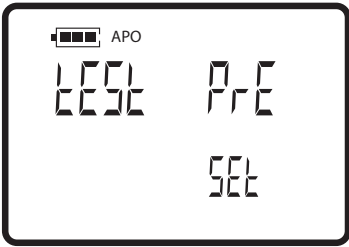

Figure 8
- 1) At **Main Screen (FIG 1)** press **TEST**. The **Test Pressure Set Screen** will appear (**FIG. 8**).